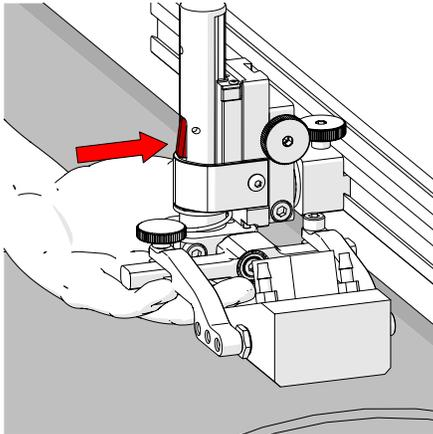
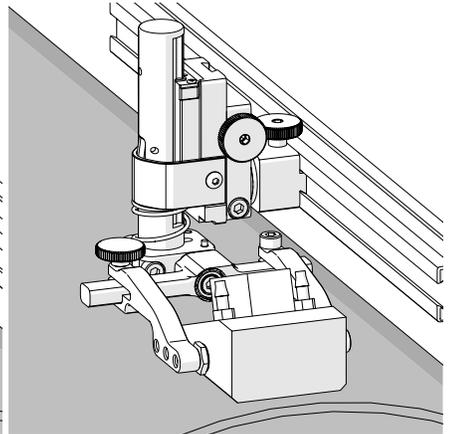

Fig. 82 - Press latch button
Fig. 83 - Lower toward scan surface
4. Lift the yoke slightly and press the latch button (Fig. 82), then slowly lower towards scanning surface to apply spring pressure to the wedge (Fig. 83).